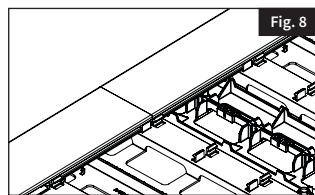

Fig. 8
- If InstaDeck tiles exceed length of deck boards, a butt joint is needed. In this scenario, share an InstaDeck Clip equally between two boards (Fig. 8).